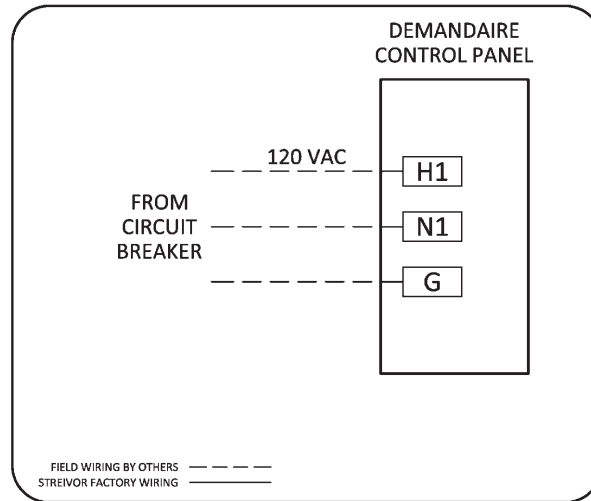

FIGURE 15: Electric Gas Valve Circuit Input Power Wiring
- Connect 120 VAC single phase power to the terminal blocks in the control panel labeled *H1*, *N1*, and *Ground* (*Figure 15*). Note: The electric gas valve circuit input power is separate from the control circuit input power.